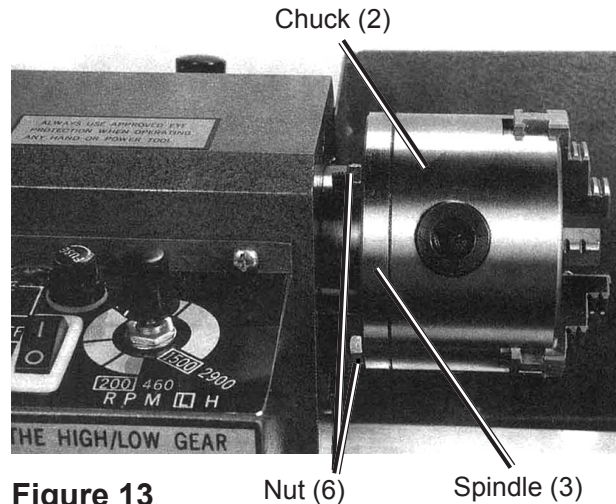

Figure 13
2. To replace the chuck, loosen the 3 Nuts (6) as shown in Figure 13, remove the old Chuck and replace with a new chuck. Replace and tighten the Nuts.